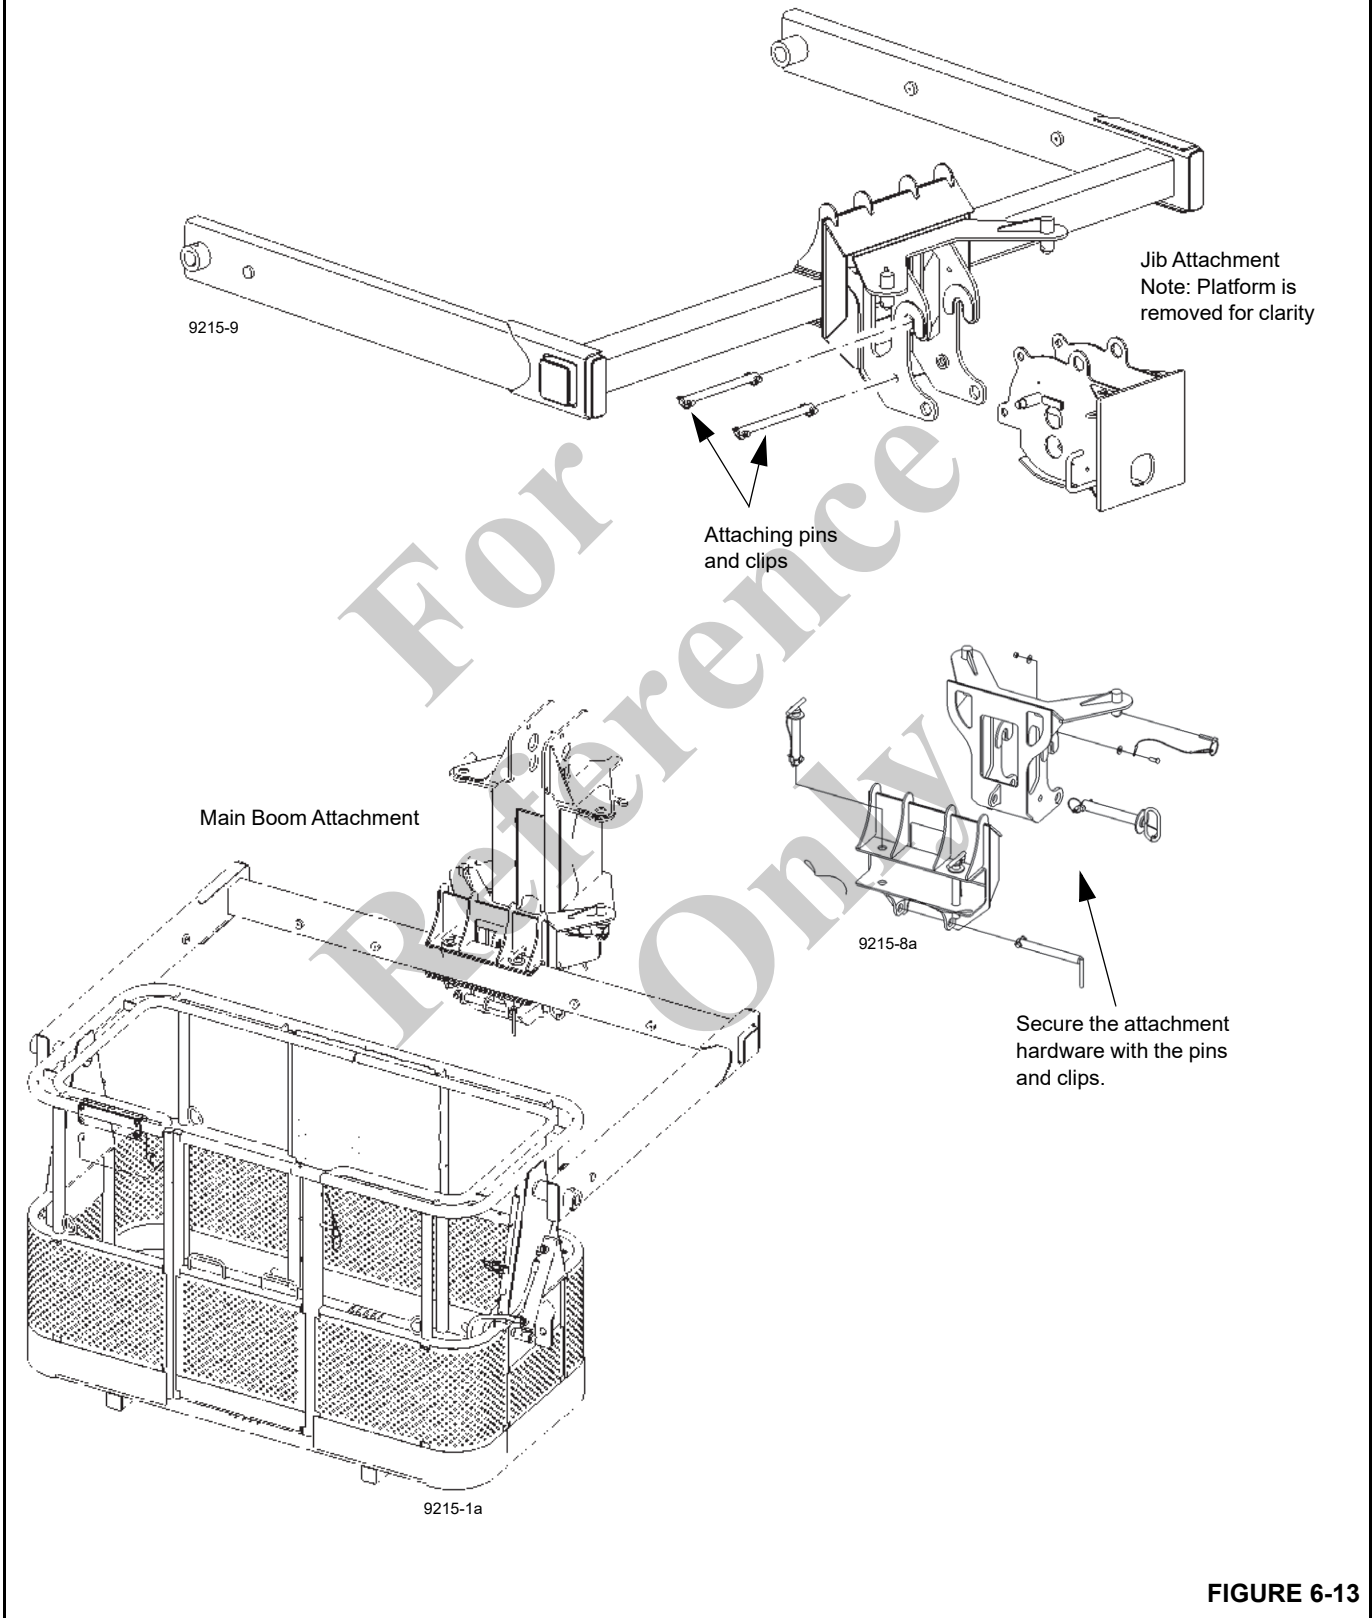

FIGURE 6-13
The platform assembly uses a three point quick attaching system to attach the platform to the tip of the boom or jib. See Figure 6-13.
3. Insert pins through hole in attaching hardware and tip of boom or jib as shown in Figure 6-13.